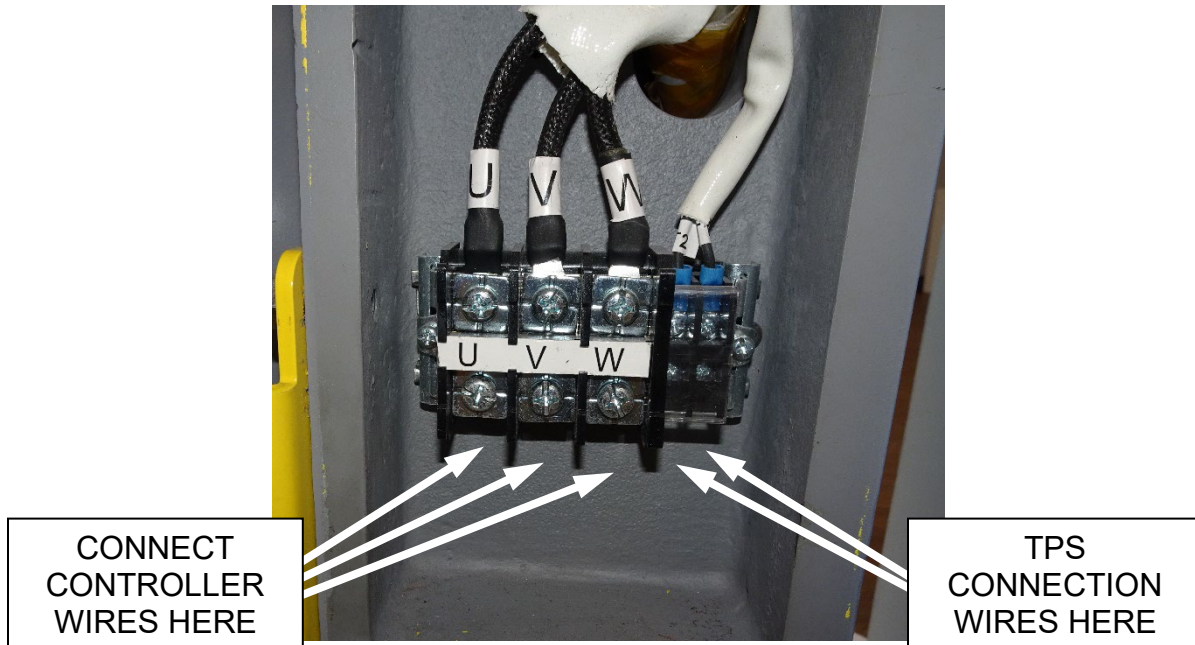

Figure 6
- The Thermal Protection Switch (TPS) is wired with leads labeled and supplied into the machine electrical enclosure. Refer to Figure 6.
- Connect the U-V-W lines from the drive as shown in Figure 6.